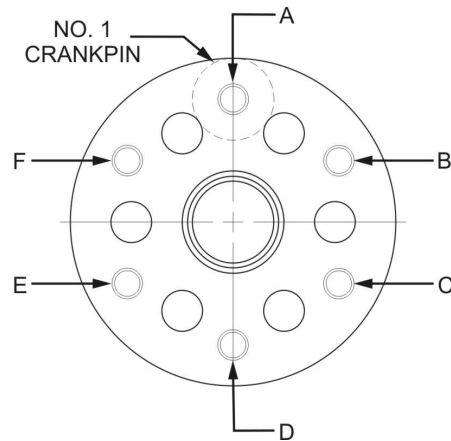

Figure 2
There are two sizes of propeller flange configurations (shown in Figures 1 and 2), each with different locations for the bushings. Figure 1 shows the smaller propeller flange. Figure 2 shows the larger propeller flange. The propeller flanges also have different thickness dimensions as shown in Table 1. Table 1 is a list of engine models, flange thickness for each model, and the propeller flange bushing part numbers that correspond to each location (A, B, C, D, E, or F); see Figures 1 and 2. As an added reference, Figure 3 shows Dimensions A and B which correspond to bushing part numbers and dimensions shown in Table 2 of this Service Instruction. For correct indexing, the specified sized bushing in Tables 1 and 2 must be installed in the respective location on the propeller flange as shown in Figures 1 and 2.
- c. If the measurement is 4-3/4 in. (12.0 cm), you have a Type 2 propeller flange. Use Figure 2 as your reference for bushing installation locations.